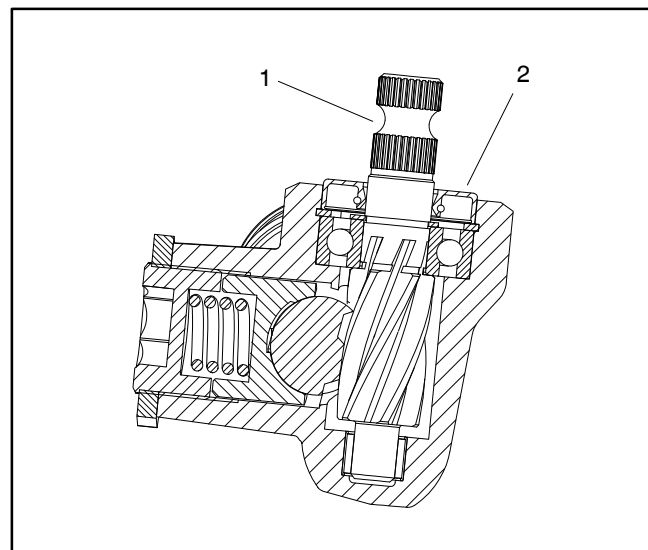

Figure 17
6. If necessary, remove input shaft seal from steering rack input shaft (Fig. 17):
- A. Mark and drill two (2) holes in the outer face of the seal.
- B. Thread two (2) self-tapping screws into the drilled holes in the face of the seal.